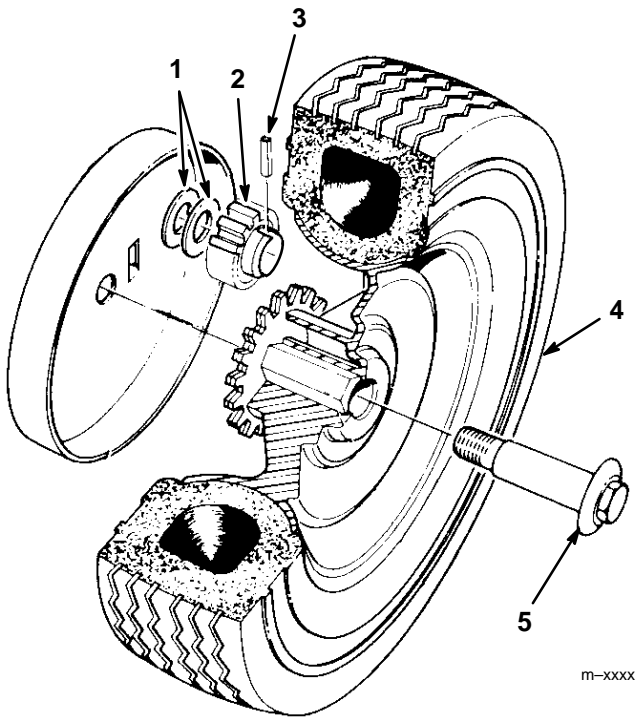

Figure 2
1. Install (2) new washers and pinion gear provided in kit (Fig. 2).
3. Reinstall wheel and wheel bolt (Fig. 2).